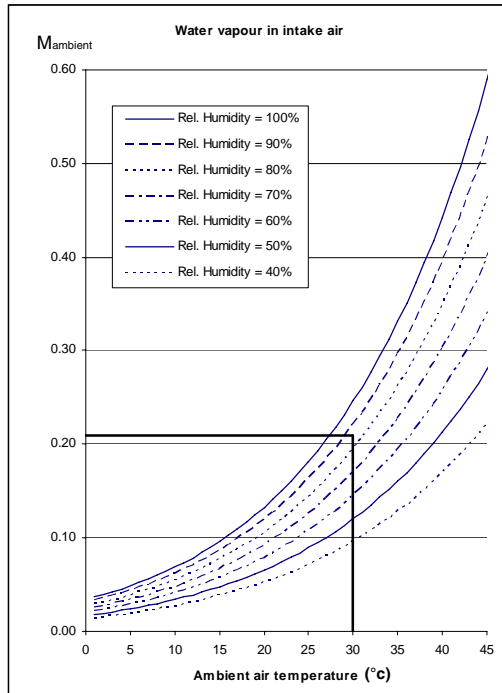

Figure 1
The amount of condensate from the water mist catcher(s) can be estimated based on the below listed measurements and figure 1 and 2.
1. The amount of water vapour in the intake air (M_{ambient}) is found in figure 1 based on measurements of ambient air temperature and relative humidity.
The sea water temperature may alternatively be used in figure 1 instead of the ambient air temperature and relative humidity. The 100% relative humidity curve applies, if the sea water temperature is used.
- 1) $M_{\text{ambient}} = 0.21 \text{ kg/kWh}$ found from figure 1 (as outlined)